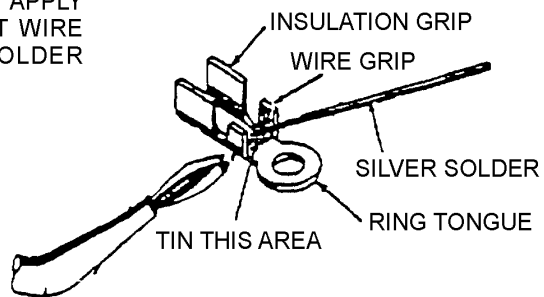

Figure 9. Tinning with Silver Solder (Sheet 3)
48. **TINNING WITH SILVER (HARD) SOLDER.** Before wires are soldered to terminals or other connections, they are tinned. The inability to obtain a good tinned surface indicates that the wire was not clean. The procedure for tinning wire and terminals is shown in Figure 9.